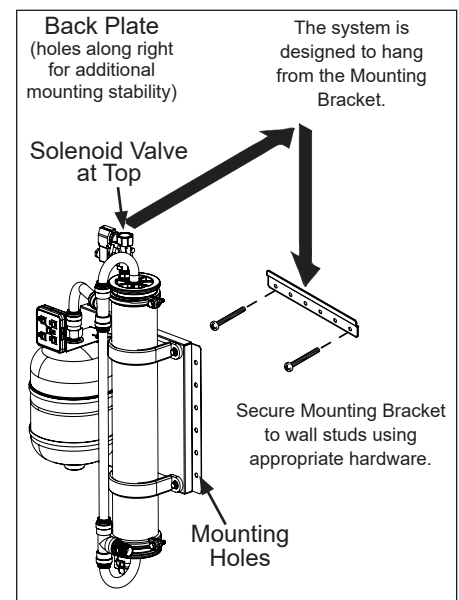

Figure 2A. Vertical Mounting
The system can be mounted vertically if required. See Figure 2A for more details. Note the following when mounting a system vertically.
2. The system must be mounted so the Solenoid Valve is located at the TOP (Figure 2A).
4. With assistance, lift the system and seat it securely onto the Mounting Bracket vertically (Figure 2A).